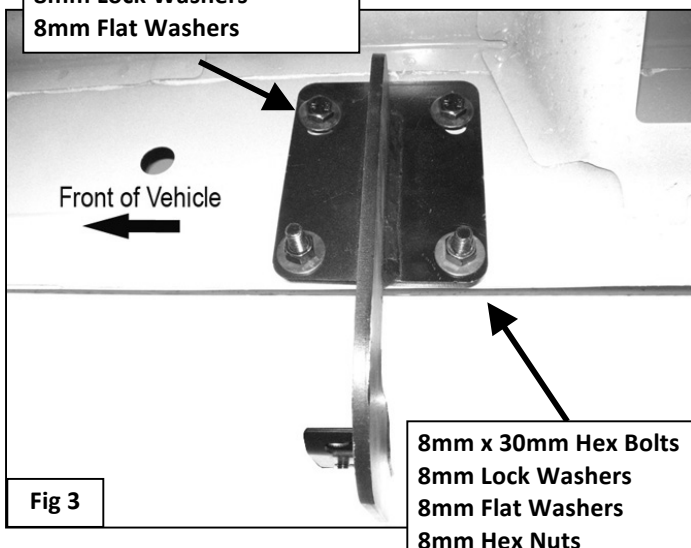

Fig 3
- Partially attach passenger side Mounting Brackets to the previously installed Clip Nuts using the included (1 or 2) 8mm x 30mm Hex Bolts, (1 or 2) 8mm Lock Washers, and (1 or 2) 8mm Flat Washers, **(Figure 3)**. **NOTE:** Cradles on the Mounting Brackets should face the front of the vehicle.
- Attach the (2) bottom holes in the Mounting Bracket to the (2) holes in the pinch weld using the included (2) 8mm x 30mm Hex Bolts, (2) 8mm Lock Washers, (4) 8mm Flat Washers and (2) 8mm Hex Nuts, **(Figure 3)**. Do not tighten hardware at this time.